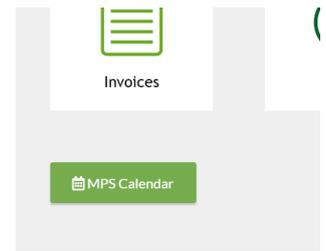

Figure 1
1. View the MPS Calendar to see when a period ends and you can submit your consumption data. To do this, go to 'New record-keeping environment' and click on 'MPS Calendar', see figure 1.